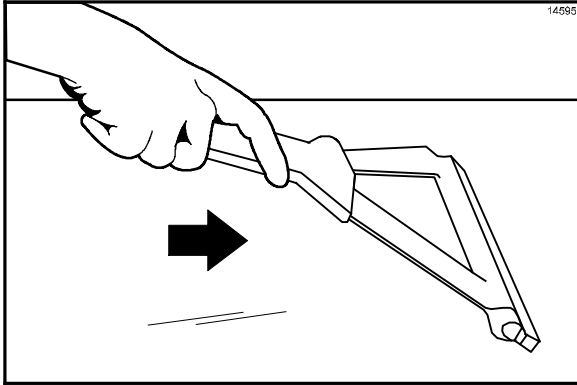

Figure 29
3. Push the residue into the grease trough. (See Figure 29.)